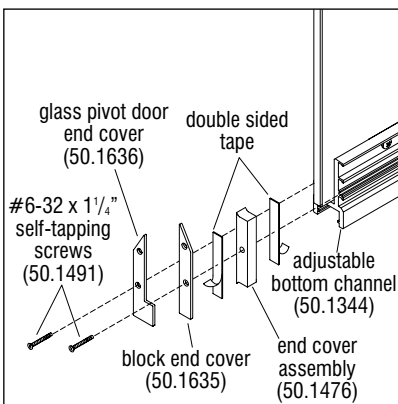

Figure 9 - Flip End Covers & Install
9. Flip all end cover components to reverse the notch in the door bottom for the new door jamb orientation. Apply installer supplied double-sided tape to both sides of the end cover assembly (50.1476) and poke a hole through the tape to expose the screw hole in the center (Figure 9).
10. Peel the double-sided tape release backing off of the end cover assembly (50.1476) that will mate to the block end cover (50.1635), then align the mounting holes and press both parts firmly together to make sure they are fully seated (Figure 9).
11. Next, peel the double-sided tape release backing off of the end cover assembly where it mates against the adjustable bottom channel. Position end cover assembly with the attached block end cover against the adjustable bottom channel and secure using a #6-32 x 1/4" self-tapping screw (50.1491) through the bottom hole only. Do not install a screw in the top hole until the bottom covers (50.1616) are installed in step 13 (Figure 9).
12. Position the glass pivot door end cover (50.1636) onto the adjustable bottom channel at the other side of the door leaf and secure using a #6-32 x 1/4" self-tapping screw (50.1491) through the bottom hole only. Do not install a screw in the top hole until the bottom covers (50.1616) are installed in step 13 (Figure 9).